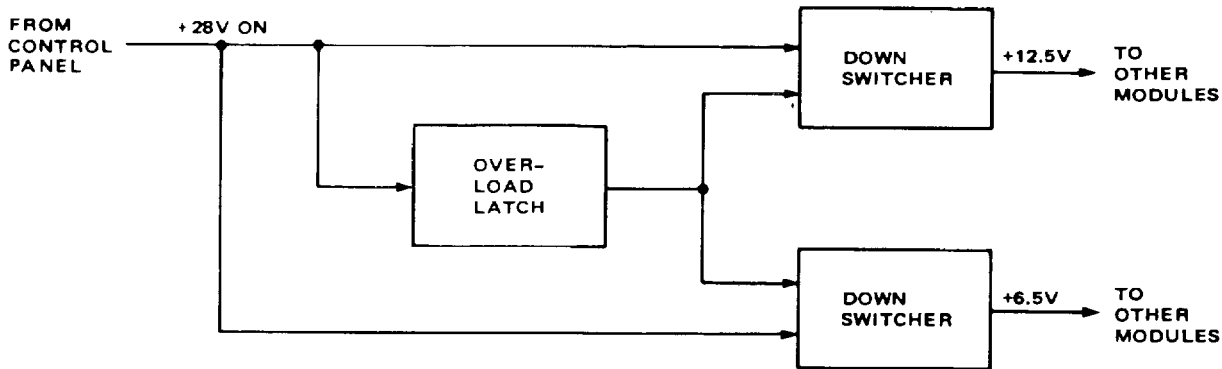

Figure 3-4. Power Supply Block Diagram
**3-27. POWER SUPPLY (Figure 3-4).** The power supply converts +28v On from the control panel to +12.5 and +6.5v. This is done by two down switchers (transistorized regulating circuits). An overload latch shuts the down switchers off if an excessive load (a short circuit, for example) is present at the output. The +6.5v goes to the antenna tuner, power amplifier, modulator/demodulator, and synthesizer. The +12.5v goes to the control panel, synthesizer, and modulator/demodulator. These voltages are regulated.